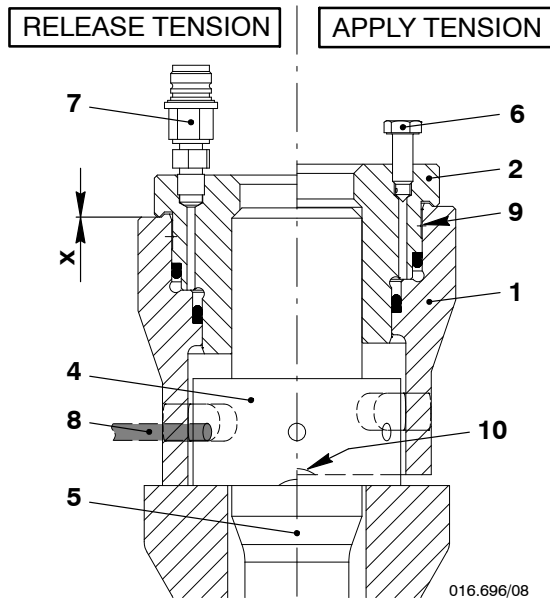
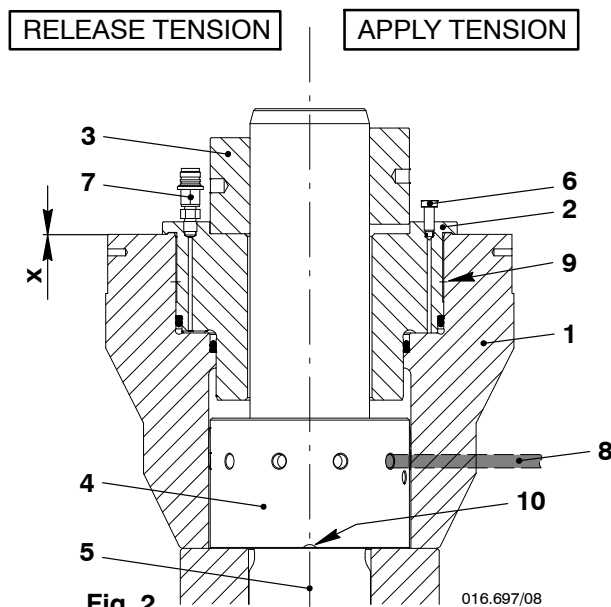

Fig. 1
Fig. 2
- Version 1 the piston (2) is attached directly on to the elastic bolt / elastic stud (5, Fig. 1).
- Version 2 the nut (3, Fig. 2) is used to apply tension to the elastic bolt / elastic stud.
- 4) Fully tighten the high pressure (HP) hoses to make sure that the built-in non-return valves can operate.
- 1) Make sure that the vent screw (6, Fig. 1) is open.
- 2) Put the hydraulic jack on to the elastic stud (5).
- 1) Make sure that the vent screw (6, Fig. 2) is open.
- 2) Put the hydraulic jack over the elastic stud (5).
- 1) Turn the round nut (4) fully down (Fig. 1 and Fig. 2). Make sure that there is no clearance at the slot (10).
- 1) Make sure that the vent screw (6, Fig 1) is open.
- 2) Put the hydraulic jack on the elastic stud (5).
- 1) Put the hydraulic jack over the elastic stud (5, Fig. 2).